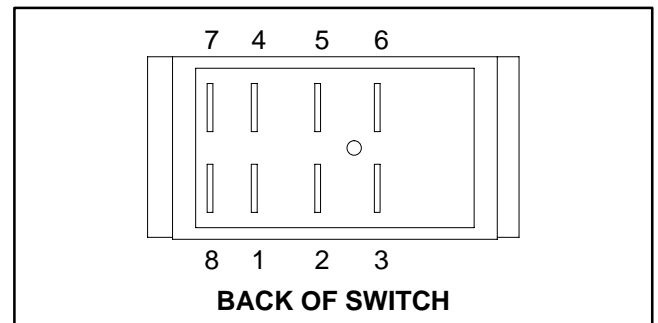

Figure 28
2. The switch terminals are marked as shown in Figure 28. In the ON position, continuity should exist between terminals 2 and 3 and also between terminals 5 and 6. In the OFF position, continuity should exist between terminals 1 and 2 and also between terminals 4 and 5.